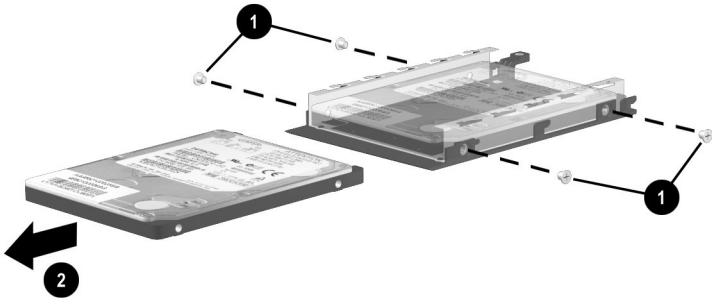

Figure 5-7. Removing the Hard Drive from the Hard Drive Bezel
- a. Remove the four silver PM2.5 × 3.5 screws ❶ that secure the hard drive to the hard drive bezel (Figure 5-7).
- b. Slide the hard drive forward ❷ and remove it from the hard drive bezel.